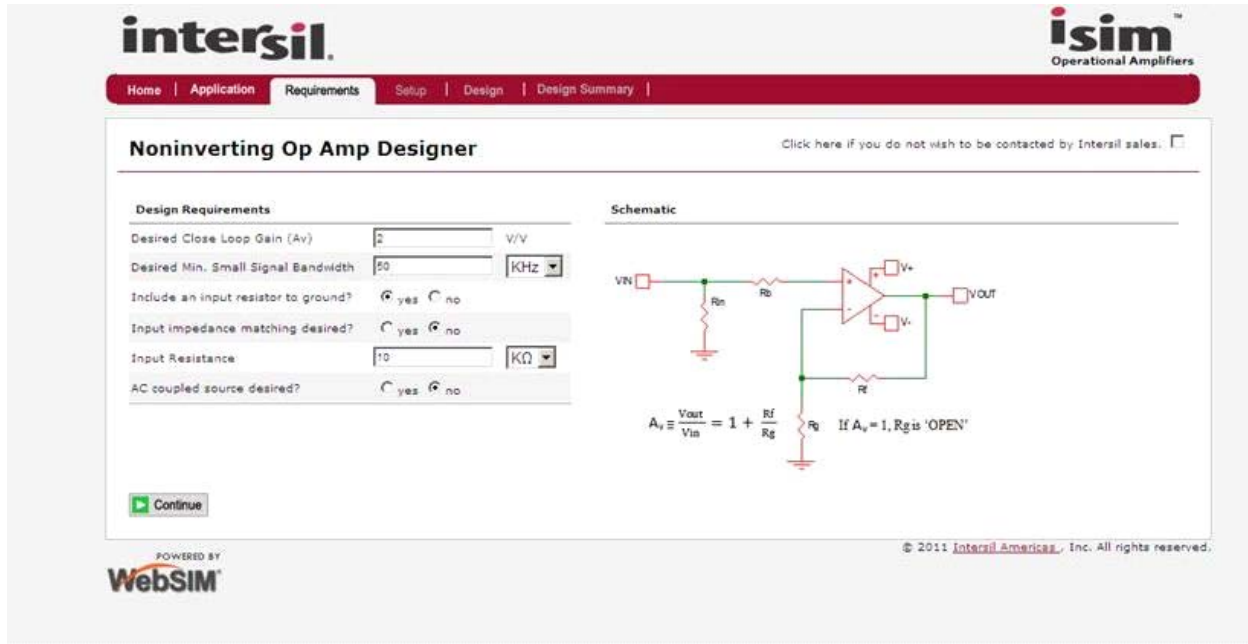
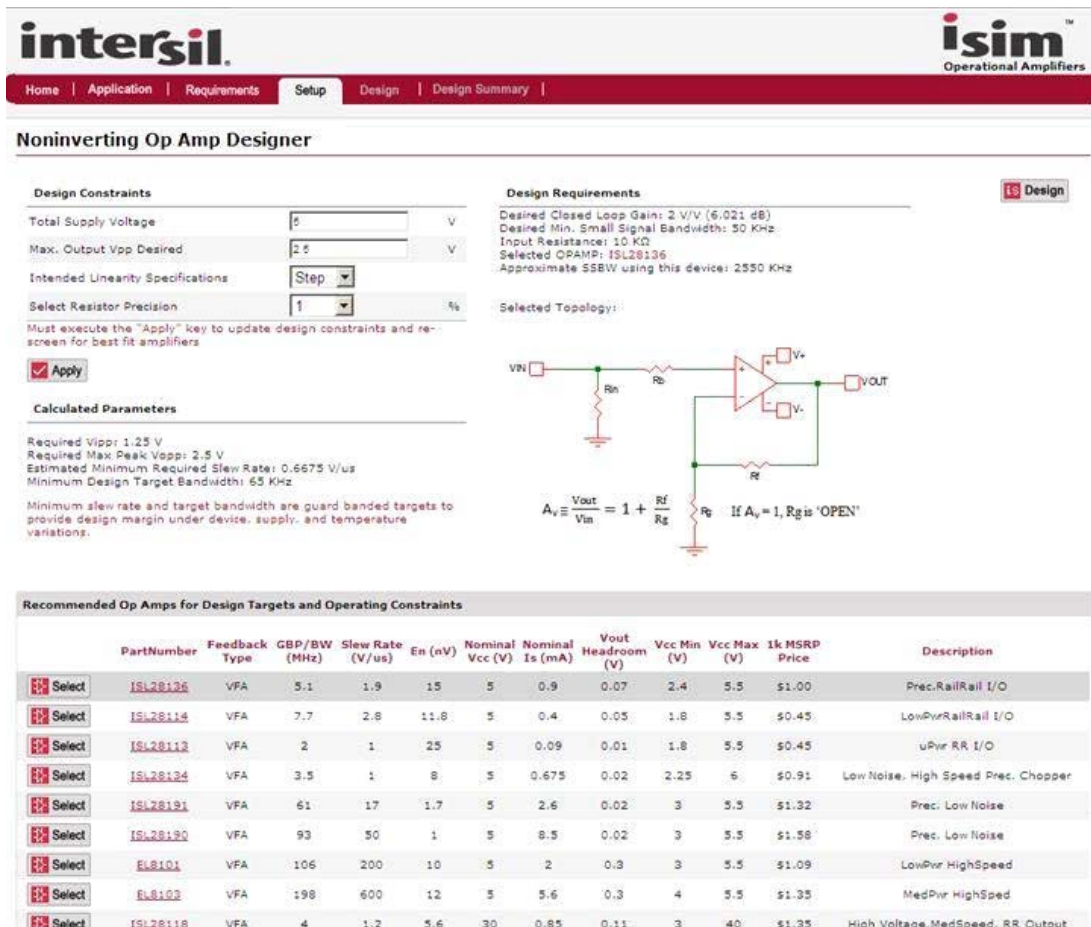
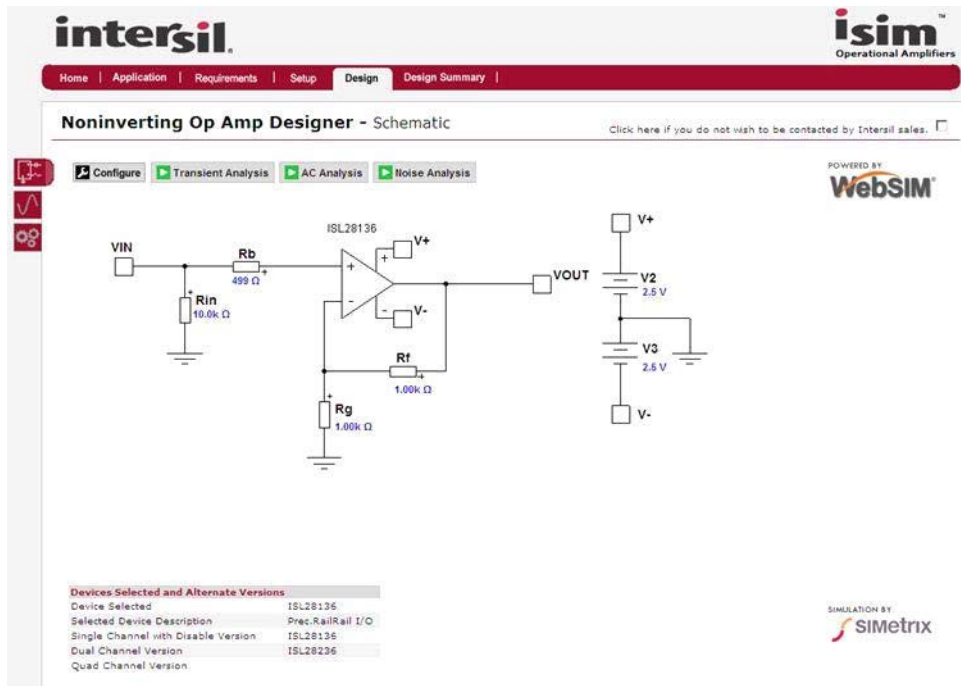

FIGURE 1. DESIGN REQUIREMENTS PAGE WITH DEFAULT SETTINGS
FIGURE 6. SETUP PAGE USING THE DEFAULT SETTINGS
FIGURE 7. DESIGN DELIVERED FROM THE DEFAULT DESIGN FLOW
The tool opens with an assumed set of targets and input network. That screen appears as Figure 1 showing the default gain (2V/V), target minimum bandwidth (50kHz), and desired input impedance (10k Ω).
Going back to the original default design of Figure 1, and hitting "Continue" will take you to the "Setup" page of Figure 6.
The default page shown in Figure 6 has already taken the target requirements and constraints, calculated some required slew rates and bandwidths, screened the available Intersil op amps, and ranked them by order of ascending design margin. Here, the ISL28136 appears as the closest fit and has been selected for "Design" (the red part number in the upper right area). Any of the other devices listed at the bottom may also be selected for design by clicking the "Select" key next to it. Clicking on the red part number will take you to the "Device Information Page" where the different packaging and full data sheets would be available.
- While these screening parameters will certainly get a reduced subset of possible solutions, it is not intended that they provide the only device that can be used in the design tool (top one listed and the default selection, ISL28136 in the default design flow). For that reason, the "Setup" page lists all the remaining devices deemed suitable at the bottom (of Figure 6) with a short list of critical parameters that might be of interest to the designer. These include the following:
- Slew Rate - this will often be the limiting constraint (vs bandwidth) on the proposed solution devices. Looking at the example of Figure 6 using the ISL28136, the estimated closed loop bandwidth of 2550kHz far exceeds the guardbanded target of 65kHz but the available slew rate of 1.9V/ μ s is just above calculated target of 0.67V/ μ s. The design tool is often not able to exactly match all required targets and constraints and instead sorts in ascending design margin from the parameters of the available devices.
- Input voltage noise for the op amp. This parameter is not used to screen or rank solution options. However, once a device is selected, the solution algorithms will attempt to control the noise added by the resistors to be a minor contribution to total output noise vs. the noise contribution of the op amp terms themselves. So, if output noise is of principal concern, pick the lowest noise device in the screened amplifier list - in Figure 6, that would be the ISL28190. Doing this often comes
Hitting the "Design" button at the upper right or lower left will take the desired targets and selected device and execute the design for the feedback and gain resistors as well as the Rb element. Doing that from the default page of Figure 6 gives the design shown in Figure 7.
1. Noise added by the resistors should not dominate the output noise. In the circuit of Figure 7 this includes the Rb element
2. The effect of the total feedback loading is considered. There, the $R_f + R_g$ appear as a load in this design and both a maximum current for the specified maximum output $V_{p,p}$ is checked as well as a minimum loading before the frequency response is impacted through op amp output impedance. For this default design, the ISL28136 is looking for something $\geq 2k\Omega$ load before 2nd order output impedance issues start to impact the small signal frequency response giving increasing deviation from a gain bandwidth calculation. That consideration has in fact set the R_f value in the example of Figure 7.